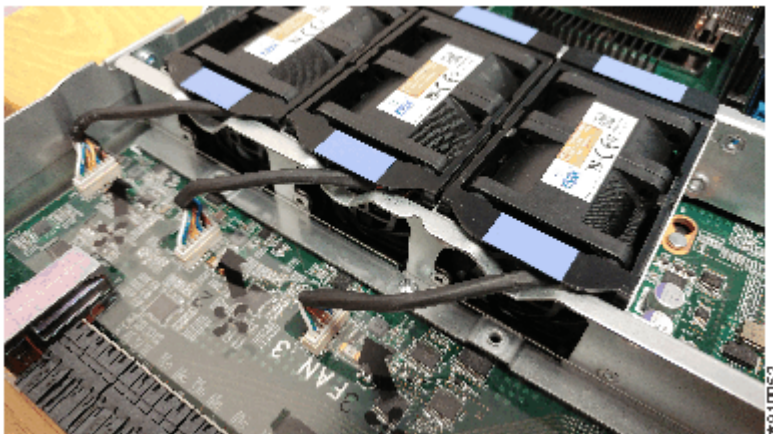

Figure 86. Aligning the cable connector
7. Install the replacement fan module into the vacant fan slot. The cable must face toward the canister front. Be careful to ensure the connecting cable passes over the air dam at the V-shaped indent, as shown in Figure 86 on page 139. Ensure that the cable is not caught under the fan module.